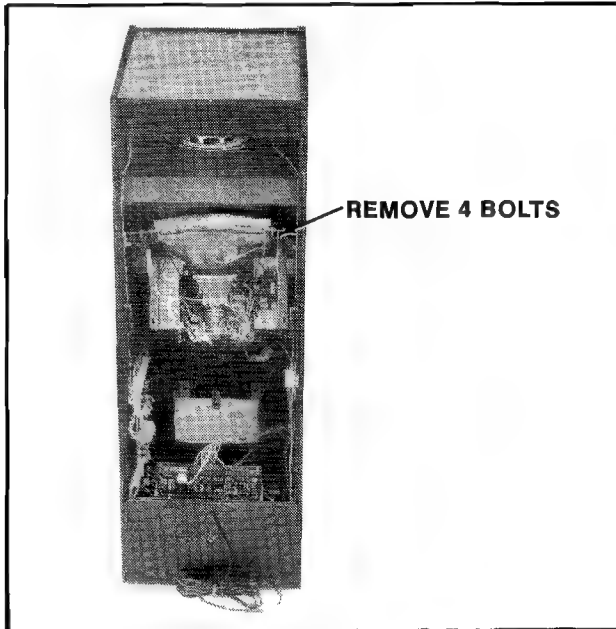

Figure 16 Replacing monitor — Mini game
2. MINI MODEL: See Figure 16.
The monitor is removed by supporting it and pulling straight back as shown in Figure 16.